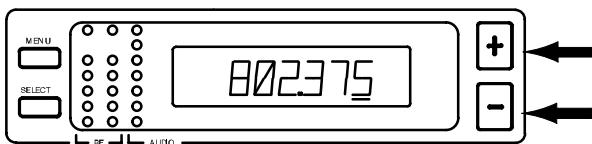

FIGURE 19
4. Press the “+” or “–” button to increase or decrease the setting in incremental steps until reaching the desired frequency. See Figure 19.